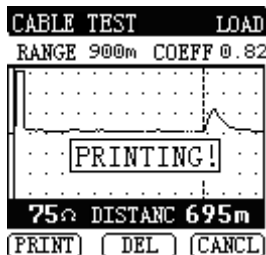

Figure 2-11
(1) Print: connects EPSON-LQ300K printer, passing the serial cable in the accessories, then presses F2 [PRINT] to print current interface (As show in Figure2-11).